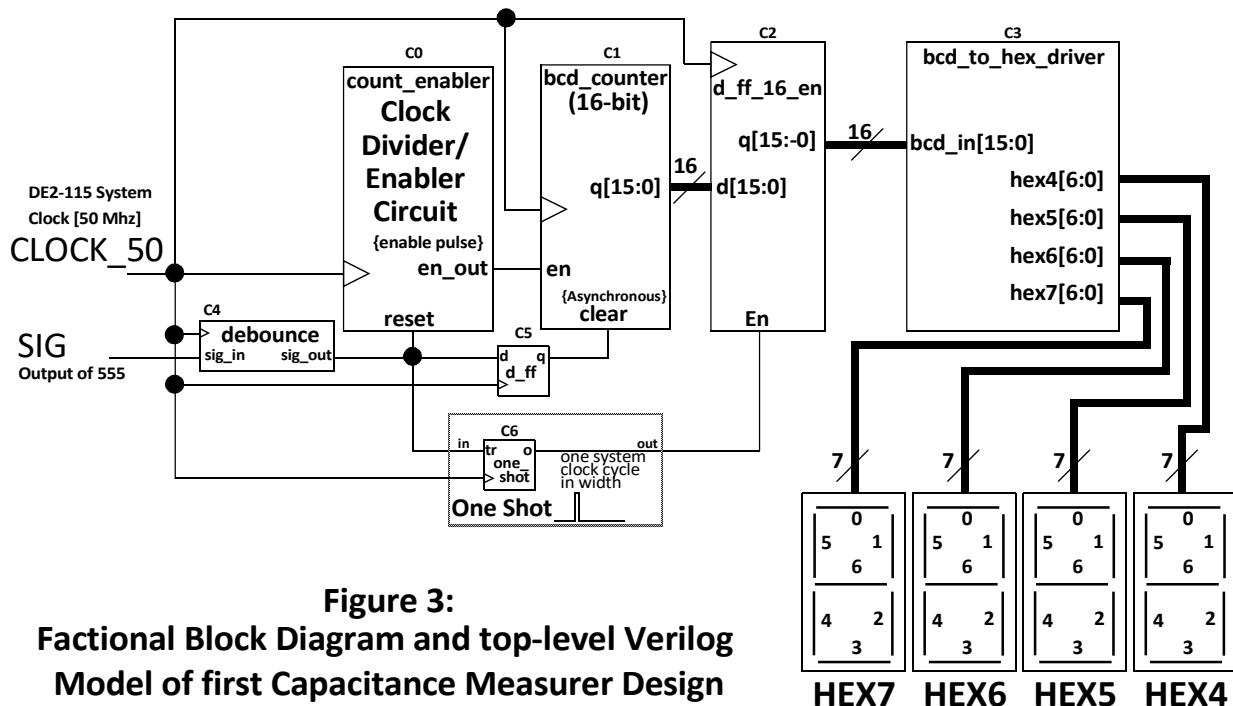

Figure 3:
4. In the structural design shown in Figure 3, what is the purpose of the 1-bit D flip-flop? What happens if it is removed?
5. What is the function of a one shot in Figure 3? Why is this important in this design?